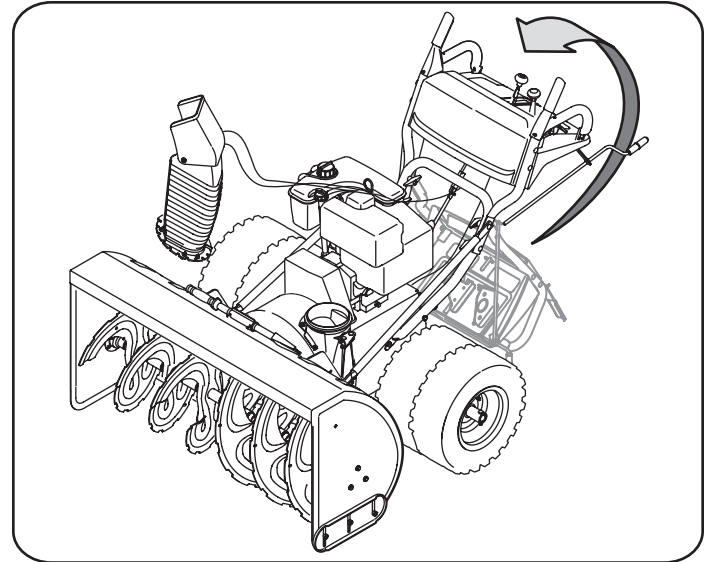

Figure 1
- b. Remove the lower wing knob and carriage bolt from each side of the upper handle. Pull up on upper handle as shown in Fig. 1. Align upper handle with the lower handle. Again, make certain the springs at the lower end of the auger and drive cables are securely hooked into their respective actuator bracket. Also, remove any rubber bands securing the cables to the wing nuts.